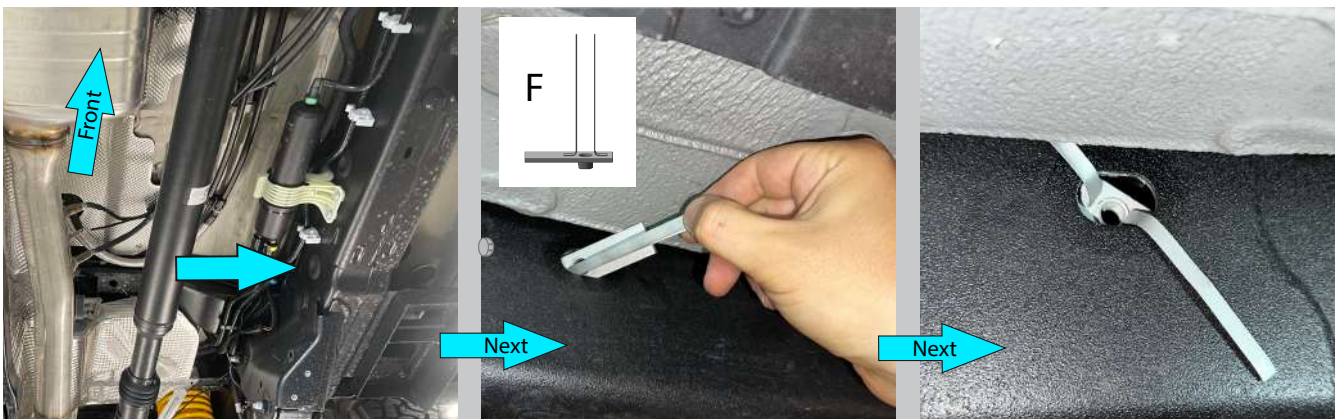

Fig. 7
7. Remove factory plug and install insert nut M10 with wires (item F) into hole as shown in fig.7.